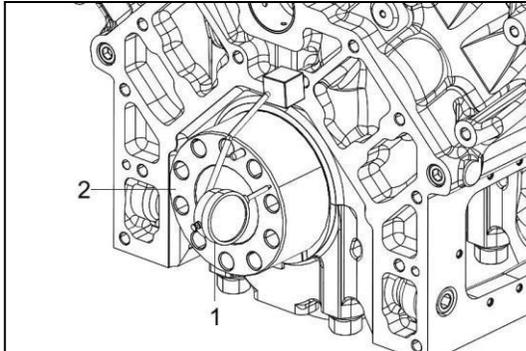

Figure 109
**Method A:** Install a dial gauge (Figure 109, 1) on the cylinder block. Move the crankshaft (Figure 109, 2) in and out to measure the end play. Record the measurement.